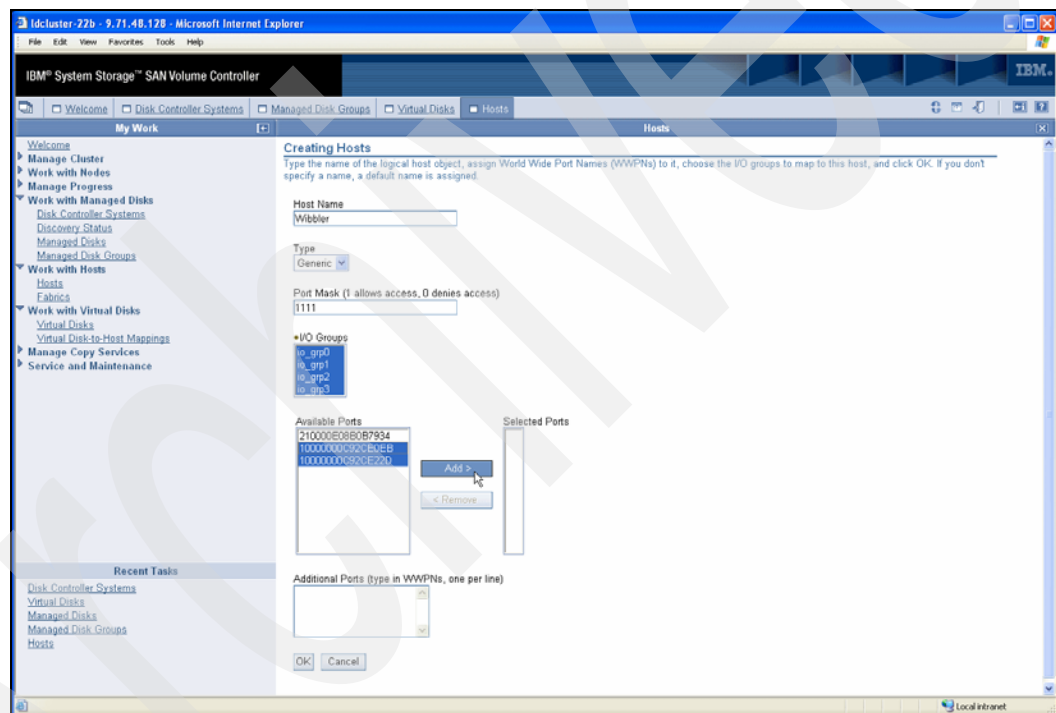

Figure 7-20 Create a host
4. On the next panel (Figure 7-20), specify the following attributes of the host: